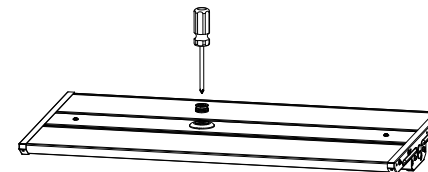

Figure 15
- Step1. Use a screwdriver to remove the 1/2 plug from the sensor;(Figure 15)